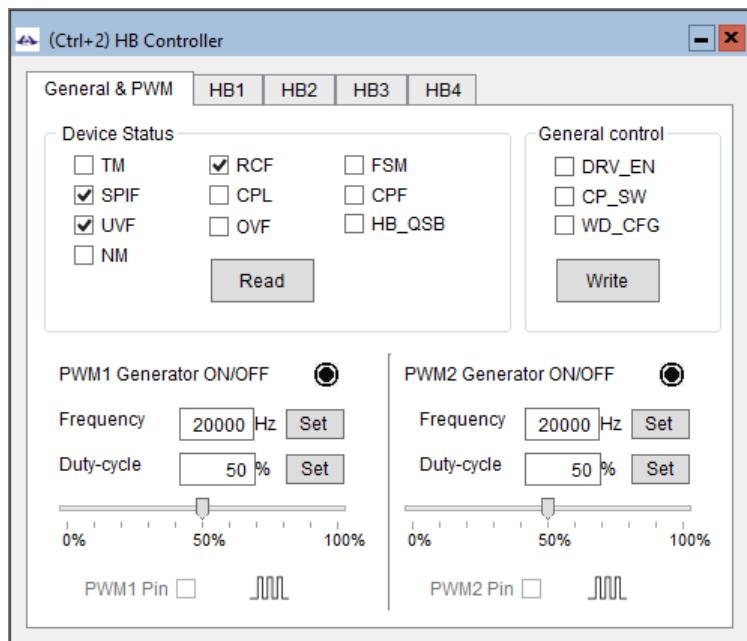

Figure 10. NCV7544 Controller Framework, HB Controller
13. “HB Controller” (Figure 10) contains all the SPI settings grouped per output channel and MCU PWM generators.